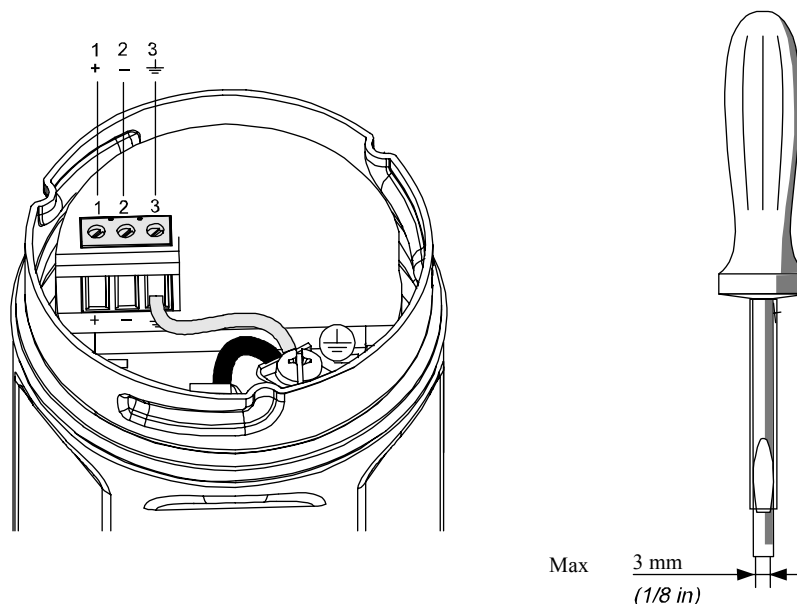

Figure 4-1 Transmitter Wiring
3. Make electrical connection. See terminal assignment in **Figure 4-1**.